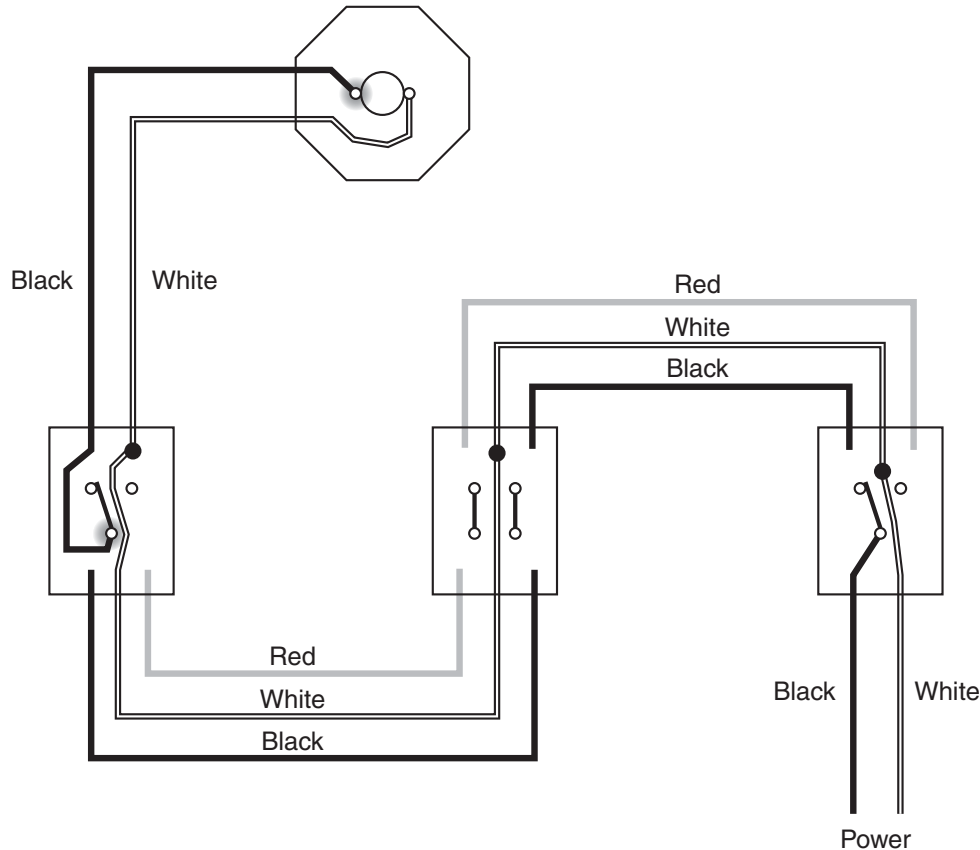

Figure 9-11 The other side of the light is connected to the common terminal of the second 3-way switch.
3. *Connect the other side of the light to the common terminal of the other 3-way switch.* The black wire of the switch leg that runs between the second 3-way switch and the light will be connected to the common terminal of the second 3-way switch. The other end of the black wire will be connected to the other side of the light (Figure 9-11).